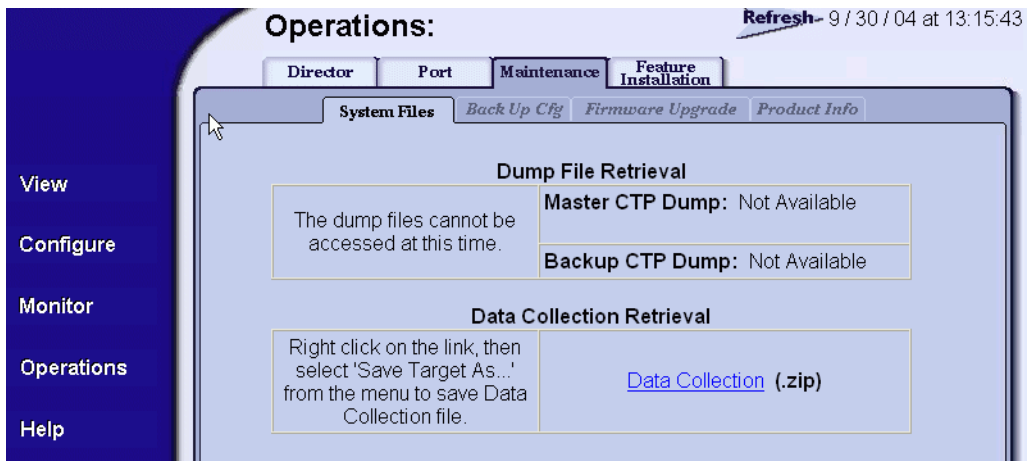

Figure 4-27 Operations Panel (Maintenance Page with System Files Tab)
2. Click the *Maintenance* and *System Files* tabs. The *Maintenance* page displays with the *System Files* tab selected (Figure 4-27).